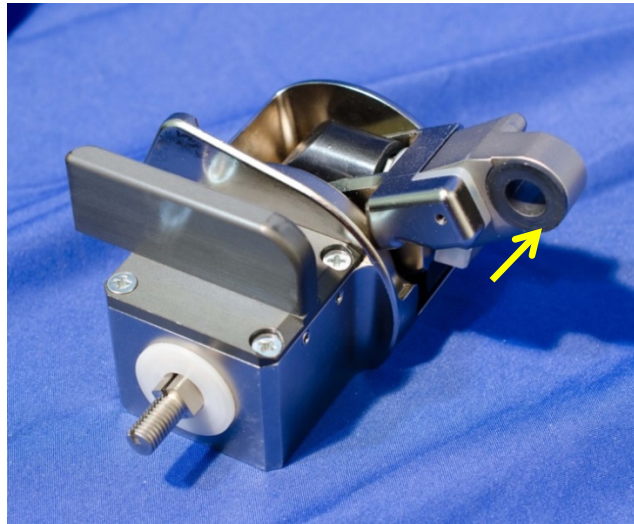

Figure 7-12. Install flange bearing into shoulder support pivot
- 7.2.2.6 Insert the Flange Bearing (14OD x 20FL x 10ID x 12LG) into the shoulder support pivot hole (Figure 7-12).